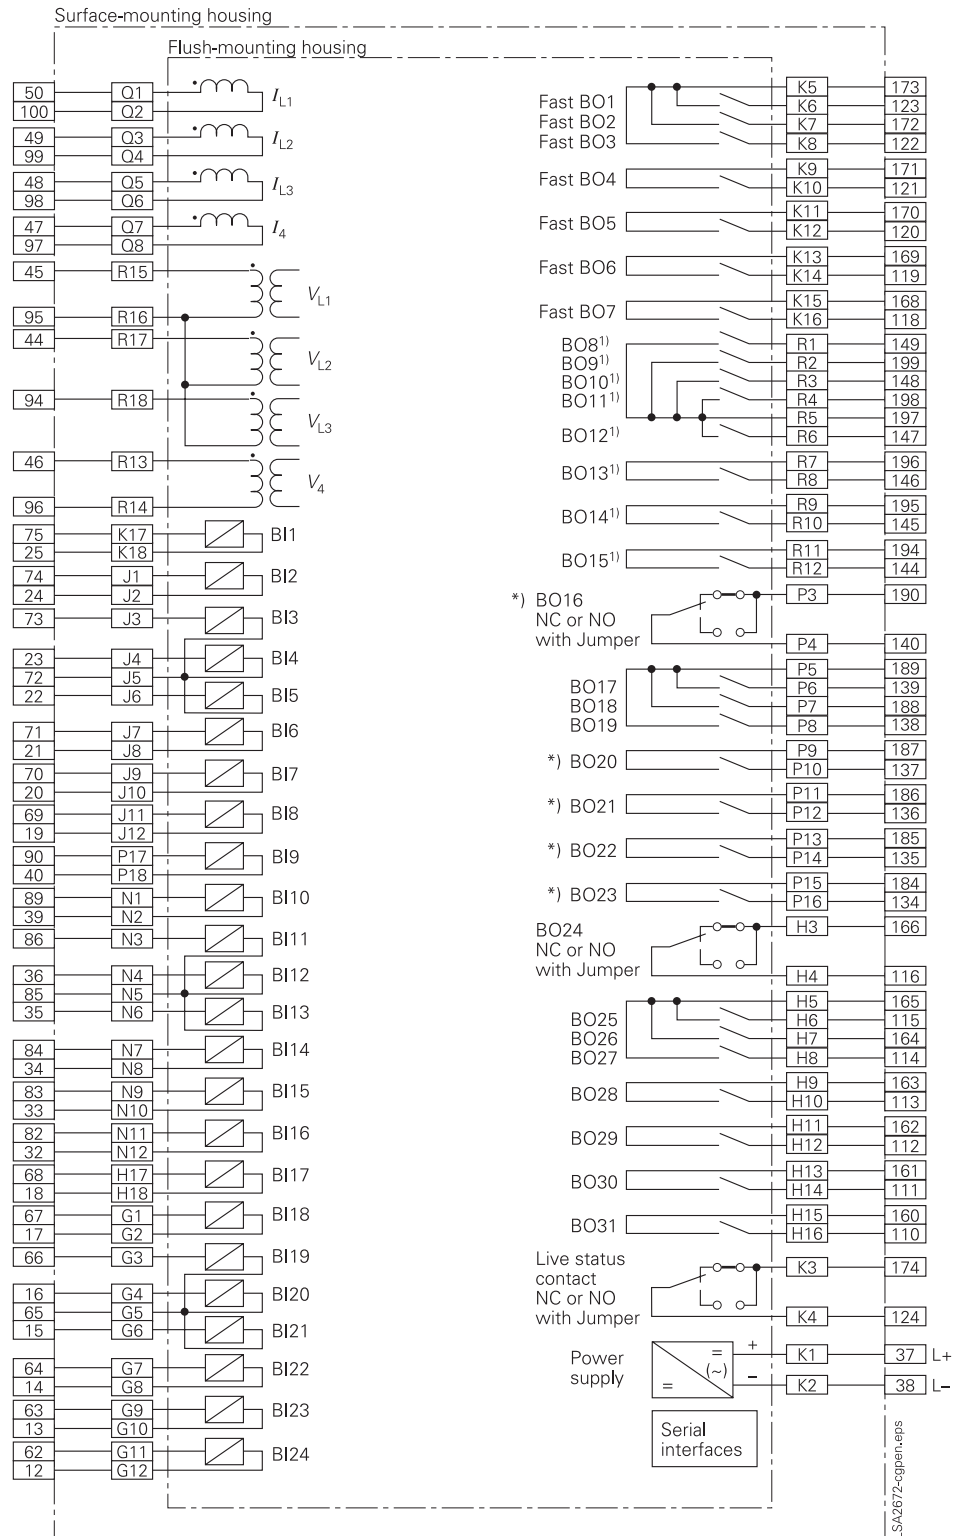

Fig. 7/78 Maximum version in housing 1/1 x 19"
1) Configuration of binary outputs until Hardware-version /EE. For advanced flexibility see Fig. 7/80.